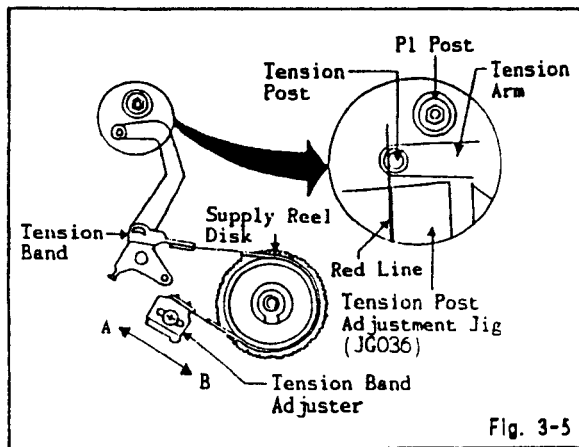

Fig. 3-5
3. Move the tension band adjuster to the "A" or the "B" direction to set tension post adjusting jig red line to the round edge of the tension post. (Refer to Fig. 3-5)